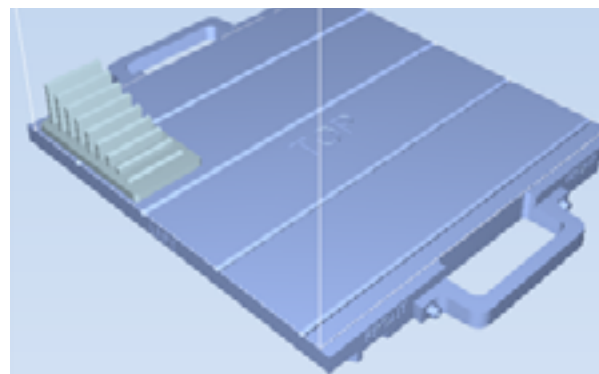

Figure 5: Vertical walls are parallel to the X-axis.
- If possible, position the vertical walls parallel to the X-axis (Figure 5). This reduces the impact of roller on these walls.